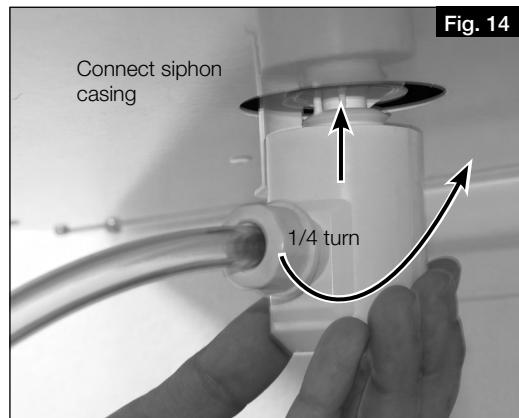

Fig. 14
5. Connect siphon casing and turn a 1/4 turn in the mounting part (see Fig. 14). Ensure that the float ball is loose in the casing!